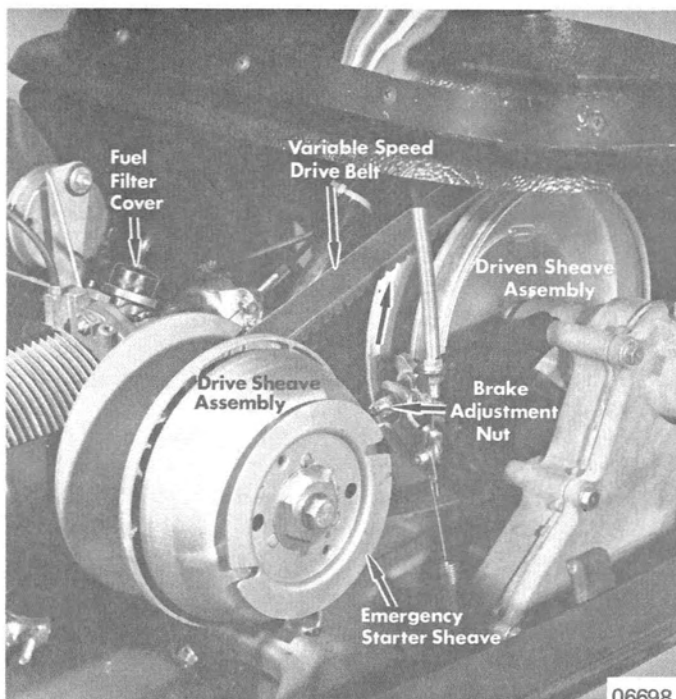

Figure 3. Brake Assembly
1. Relieve tension on brake assembly by removing spring. (Figure 3)
2. Remove brake core wire from clevis. (Figure 3)